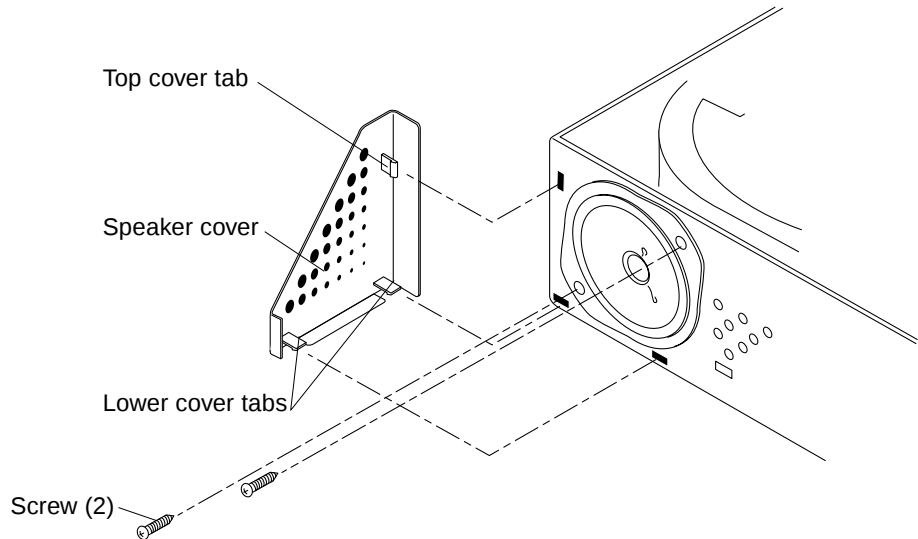

FIGURE 8-8 Speaker Cover Detail
Note – The speaker cover is secured by three tabs; one tab is on the cover top and two tabs are on the cover bottom (see FIGURE 8-8).
4. Remove the two screws that secure the speaker to the chassis. Set the screws aside (FIGURE 8-8).
3. **Replace the two screws that secure the speaker to the chassis and proceed as follows (FIGURE 8-8):**